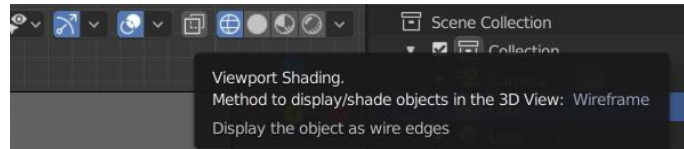

Figure 26
- 9) However, the handle is not cylindrical but oblate (see on the parallel drawing) with diameter of approximately 3.8 cm. From **Viewport Shading** panel click on the **Wireframe** icon (Fig. 26).